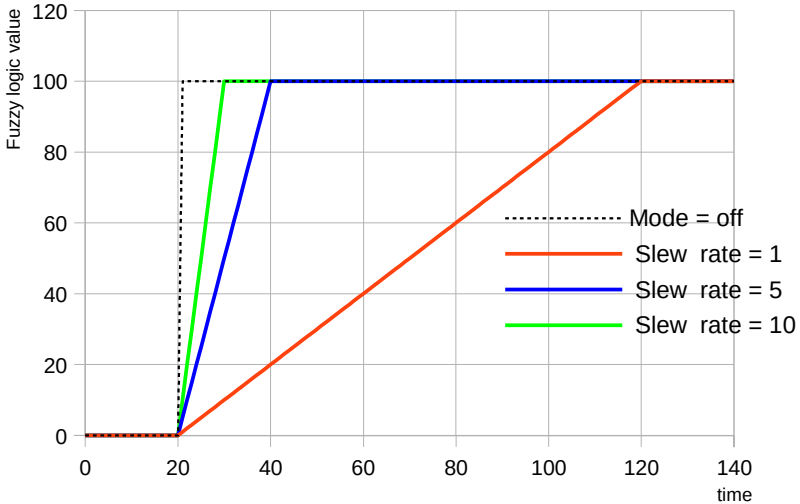

Fig. 7.114. Change of fuzzy logic value according to **Slew rate** parameter
- **Slew rate** – defines the slew rate, (see Fig. 7.114),